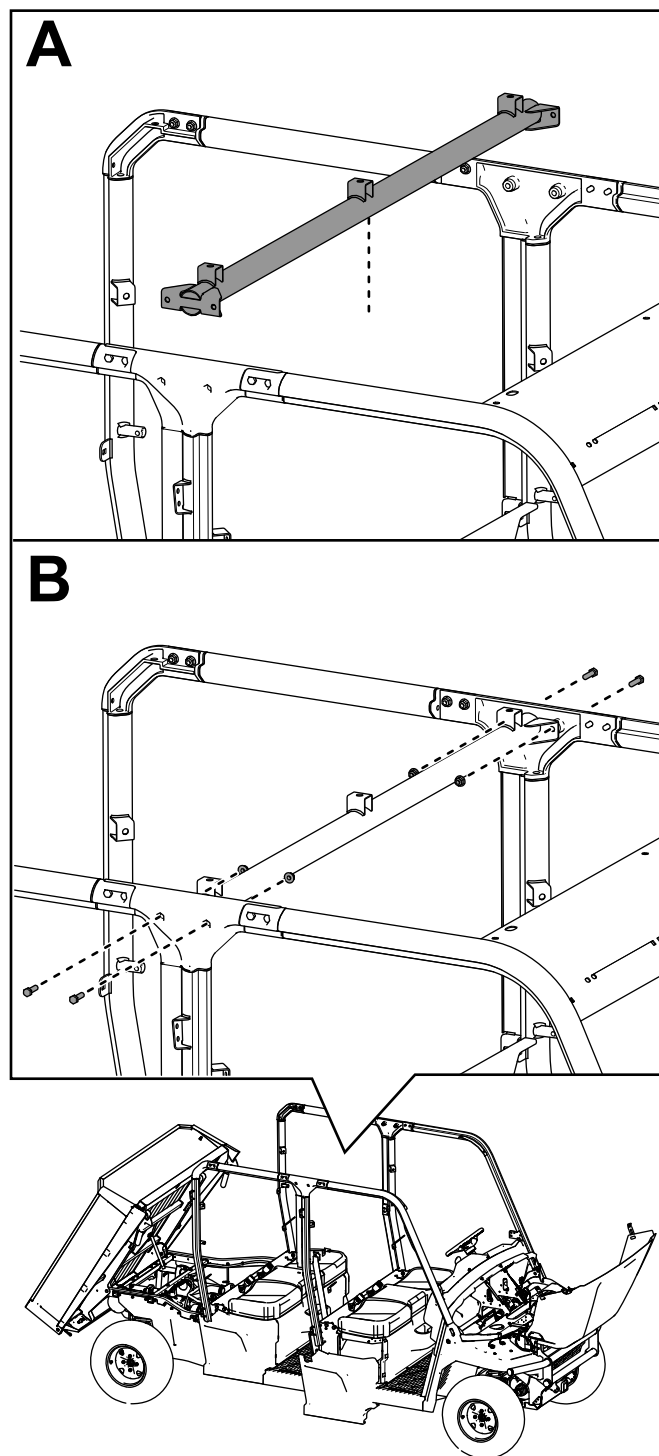

Figure 49
16. Secure the middle crosslink to the middle roll bar assemblies using 4 hex-head bolts (3/8 x 1-1/4 inches) and 4 locknuts (3/8 inch) as shown in Figure 49.